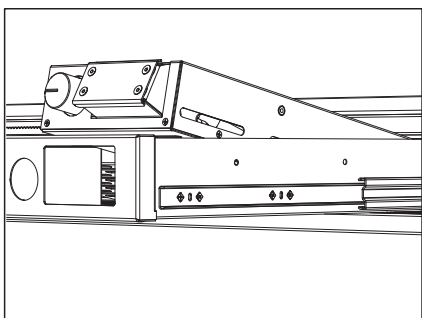

FIGURE 11
7. Tilt the SBI up according to Figure 11 and pull it out through the top off the drawer